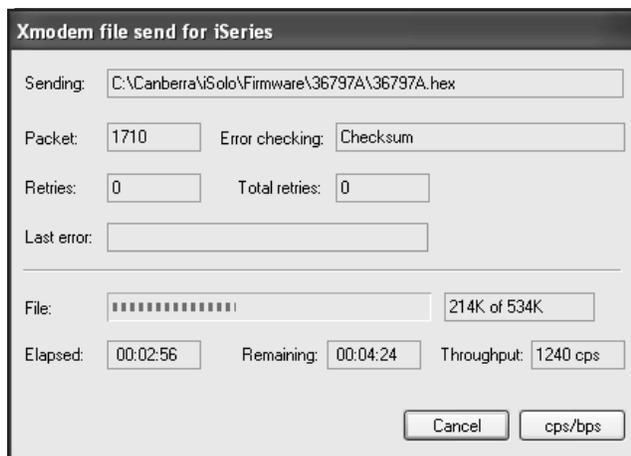

Figure 11 File Transfer in Process
- HyperTerminal will then transfer the firmware file to the unit as shown in Figure 11.